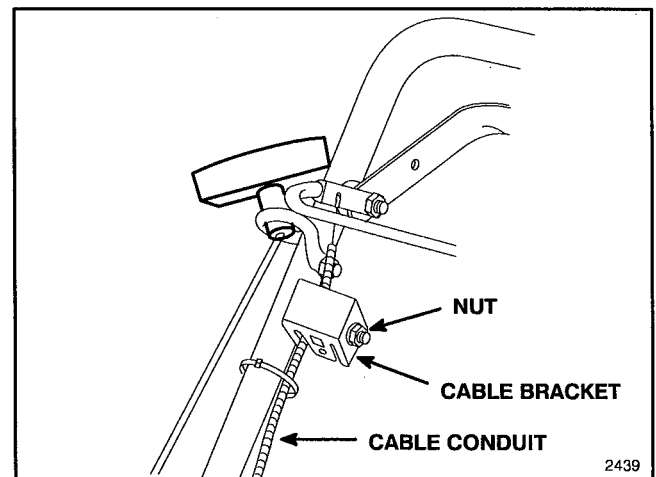

Figure 36
3. ADJUST CABLE CONDUIT (Fig. 36)—Loosen nut on cable bracket. Insert 3.2–4.8 mm (1/8"–3/16") object between brake lever and handle. Pull down on cable conduit until all slack is removed from wire. Then tighten nut.